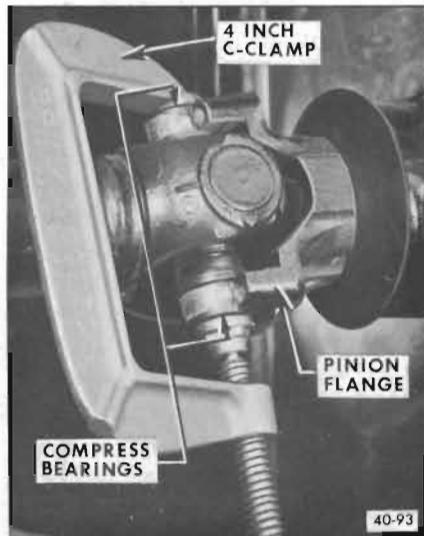

Figure 40-93—Using C-Clamp to Install a Universal Joint
5. Compress two loose bearings of rear universal joint toward each other using a 4 inch C-clamp. See Figure 40-93. This allows the bearings to seat in the pinion flange without the snap rings gouging the locating surfaces of the pinion flange while entering.